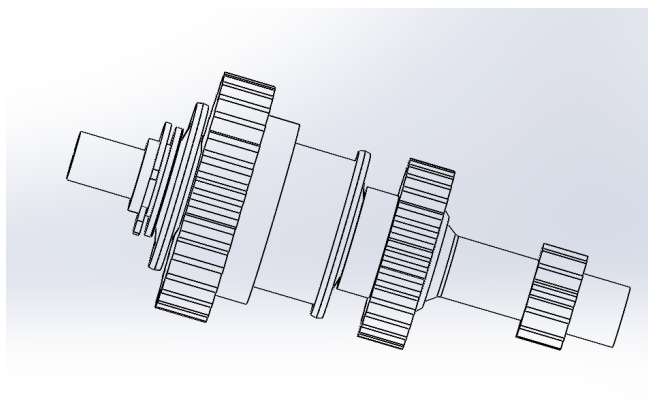

Figure 2.16
2.6.2 When the clutch is pulled, you will be shown in this configuration (Fig.2.16);